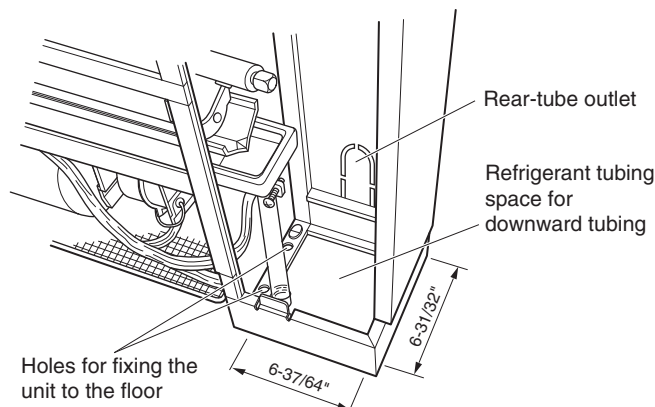

Fig. 3-182
- When a downward tube is required, refer to the opening dimensions shown in Fig. 3-182.